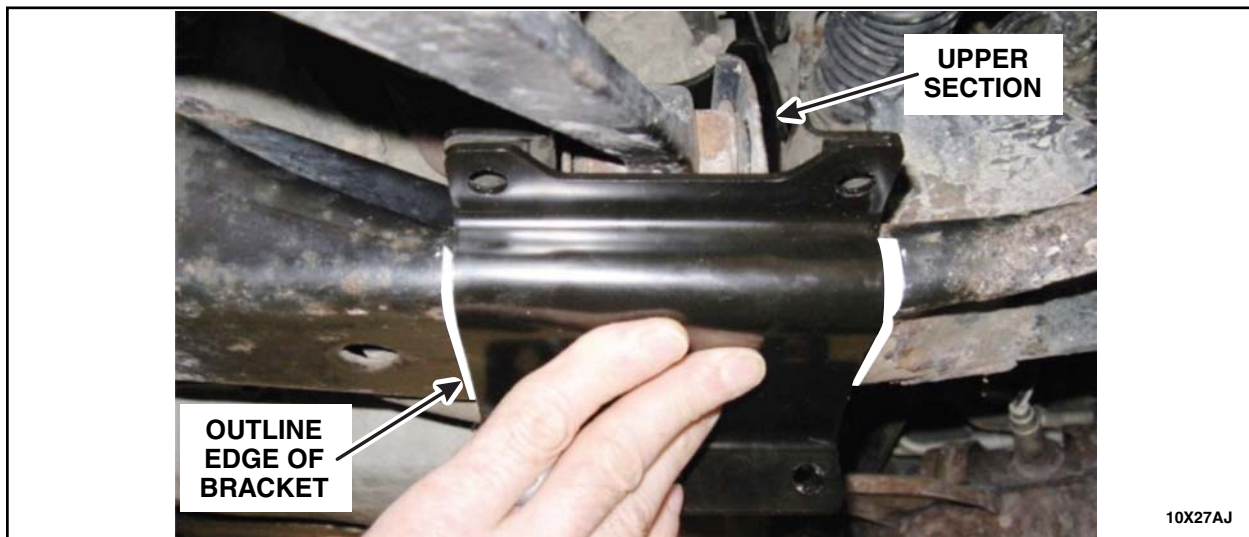

FIGURE 8
9. Dry fit the lower section of the driver side reinforcement brackets on the subframe by aligning bolt holes with upper section. Using a paint pen or marker, outline the outer edges of the LCA reinforcement bracket. See Figure 8.